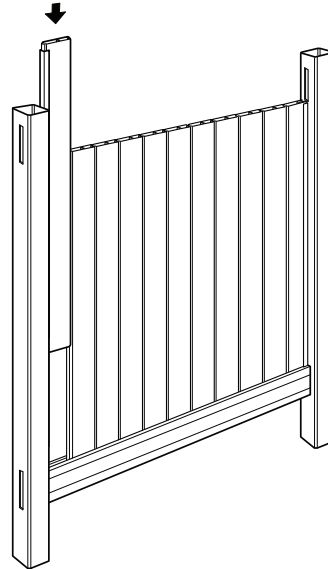

fig. 8
STEP 6 – Slide the second U-channel onto the last picket and center it vertically. Install the last picket (fig. 8).